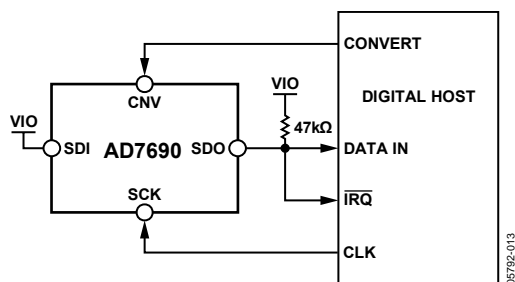
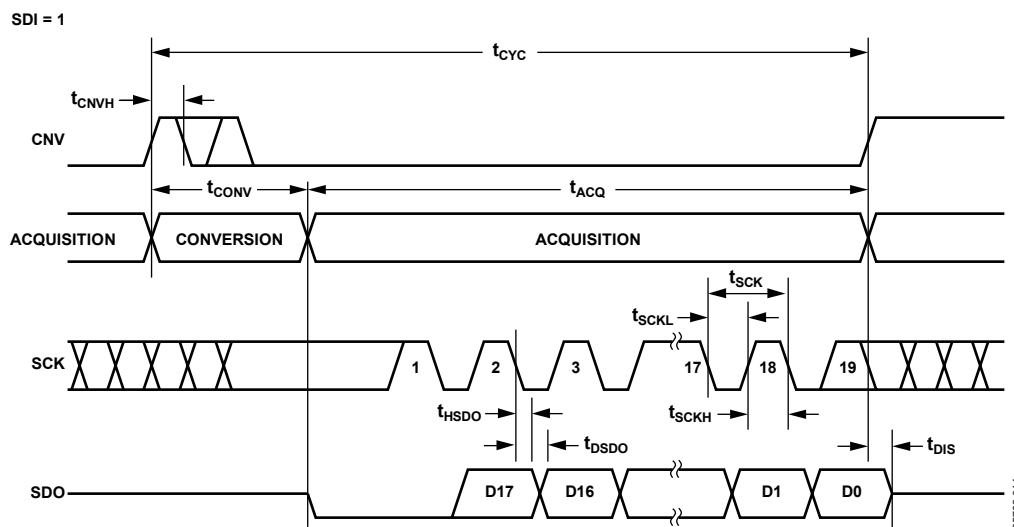
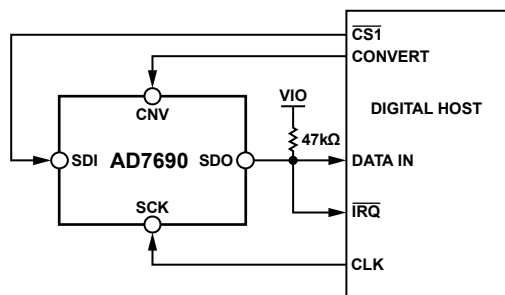
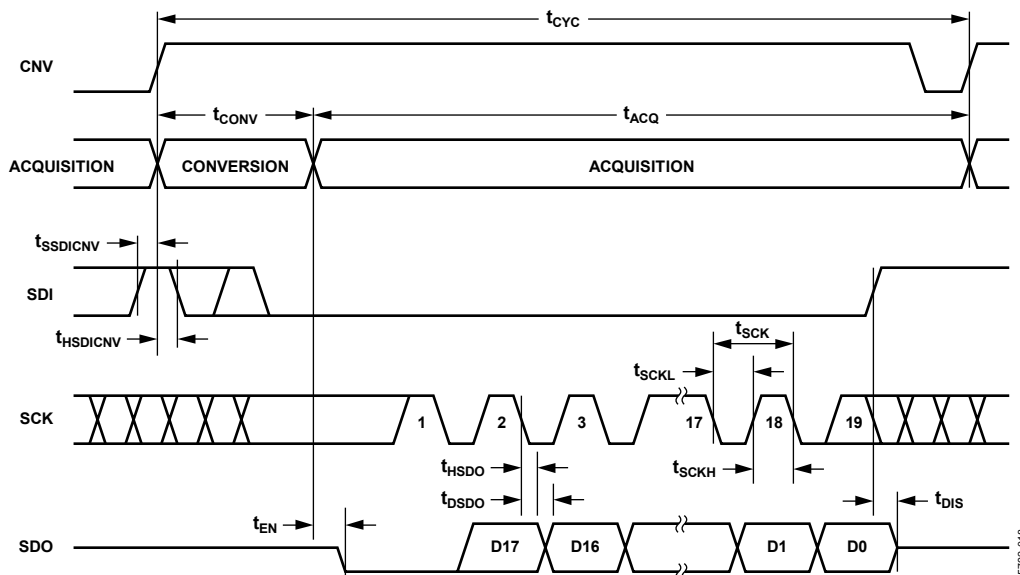

Figure 36. 3-Wire  $\overline{\text{CS}}$  Mode with Busy Indicator Connection Diagram (SDI High)
Figure 37. 3-Wire  $\overline{\text{CS}}$  Mode with Busy Indicator Serial Interface Timing (SDI High)
Figure 40. 4-Wire  $\overline{\text{CS}}$  Mode with Busy Indicator Connection Diagram
Figure 41. 4-Wire  $\overline{\text{CS}}$  Mode with Busy Indicator Serial Interface Timing
- In  $\overline{\text{CS}}$  mode if CNV or SDI is low when the ADC conversion ends (see Figure 37 and Figure 41).
The connection diagram is shown in Figure 36, and the corresponding timing is given in Figure 37.
The connection diagram is shown in Figure 40, and the corresponding timing is given in Figure 41.